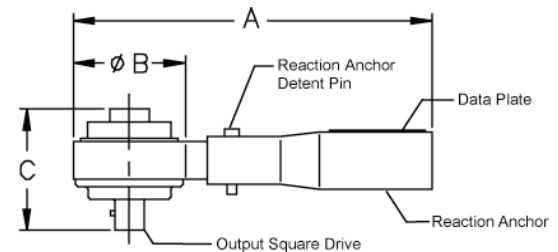

Figure 1. Torque Multiplier Parts and Dimensions
- 6.3 Mount a 3/4" (19mm) square female drive socket onto the torque multiplier's output square drive (See Figure 1). Then, position socket and torque multiplier on the fastener to be tightened.